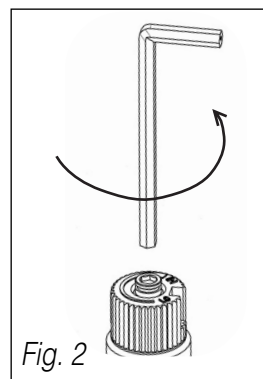

Fig. 2
- Insert a 5/32” or 4 mm Allen wrench into the exagonal key-way of the screw (fig. 2), rotate it counter-clockwise until it is free and extract it.